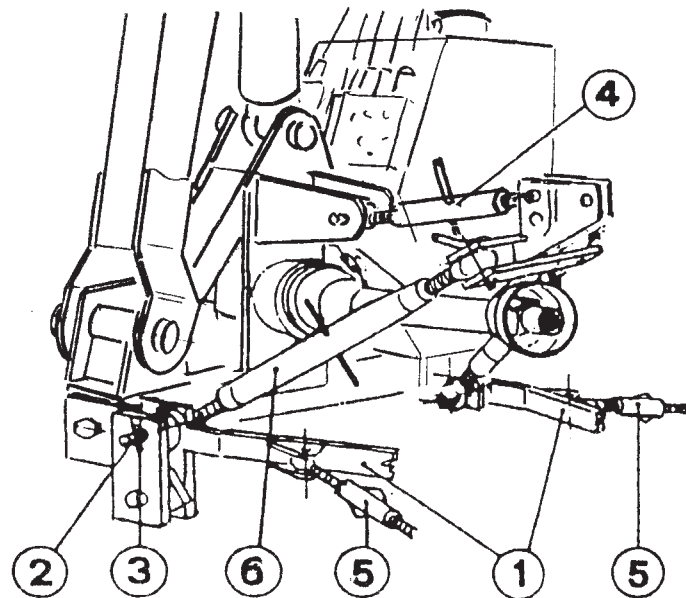

Fig. 14
For model TD37 - 42 (which are heavier) it is advisable to use two additional stabilizers (6) (supplied with a kit on request), that make the tractor stabler. FIG. 14.
Remove stabilizers (6) (FIG.14) (only on machines equipped with them).